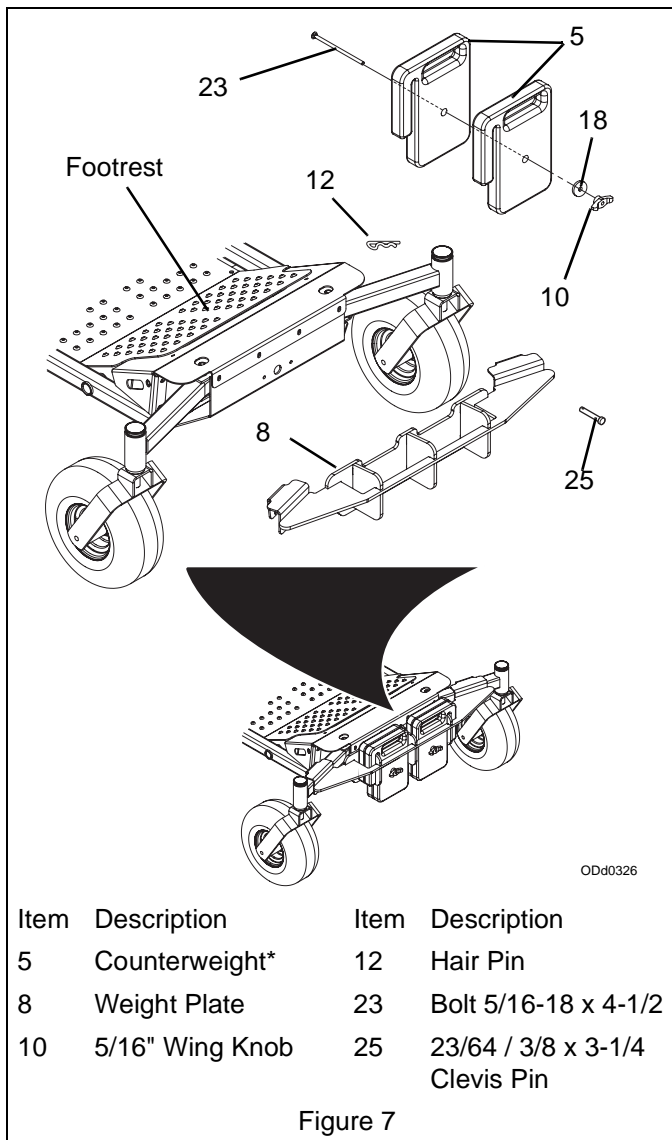

Figure 7
7. Remove counterweights (see figure 7 on page 11).